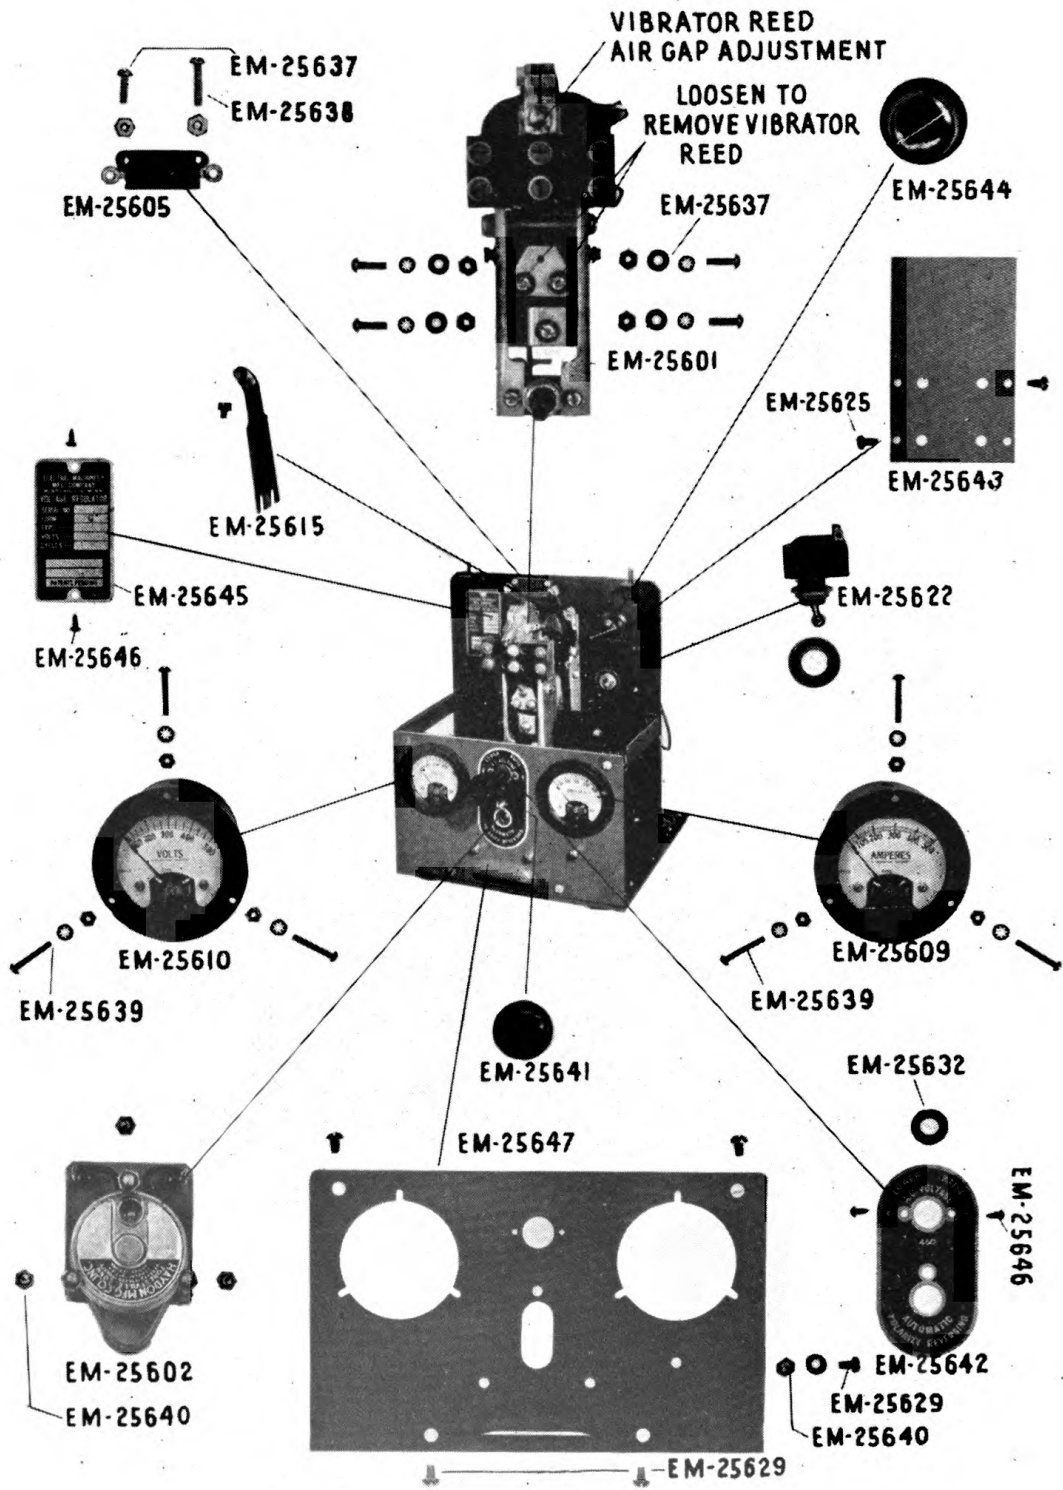

FIG. 21—Voltage Regulator Parts
- Figure 21 Voltage regulator parts.